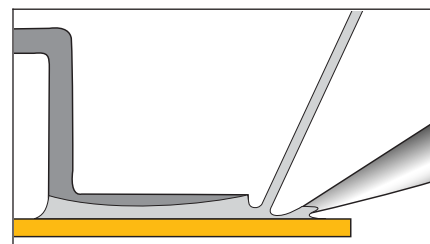

Figure 3 Feed Solder into Gap
7. Move to the diagonally opposite corner lead from the one that was just tacked. Reposition the component if the alignment has wandered, and lightly flux the lead. Place a lightly tinned tip on the land in front of the lead, allow it to absorb heat for a moment, then feed solder wire to the land at the gap between the tip and the lead to create the second fixturing joint. (See Figure 3.)